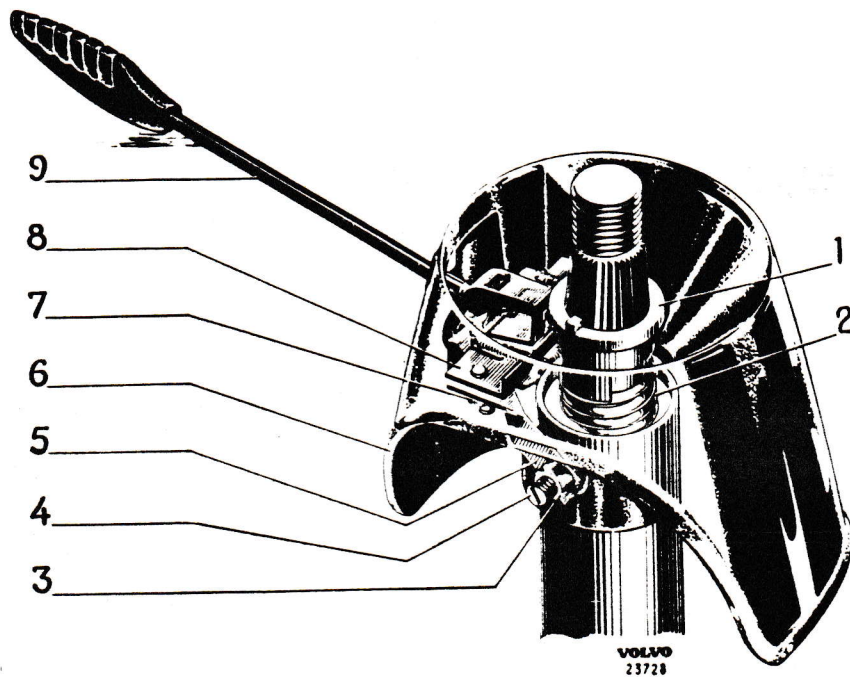

Fig. 96.
3. Slacken the lock nut, (3, Fig. 96) and screw out the stop screw (4) a few turns.
The direction indicator switch can be adjusted by slackening the screw (4, Fig. 96) and then turning the casing with switch to the desired position. A space of about 2 mm (5/64") should be left between the steering wheel and casing.